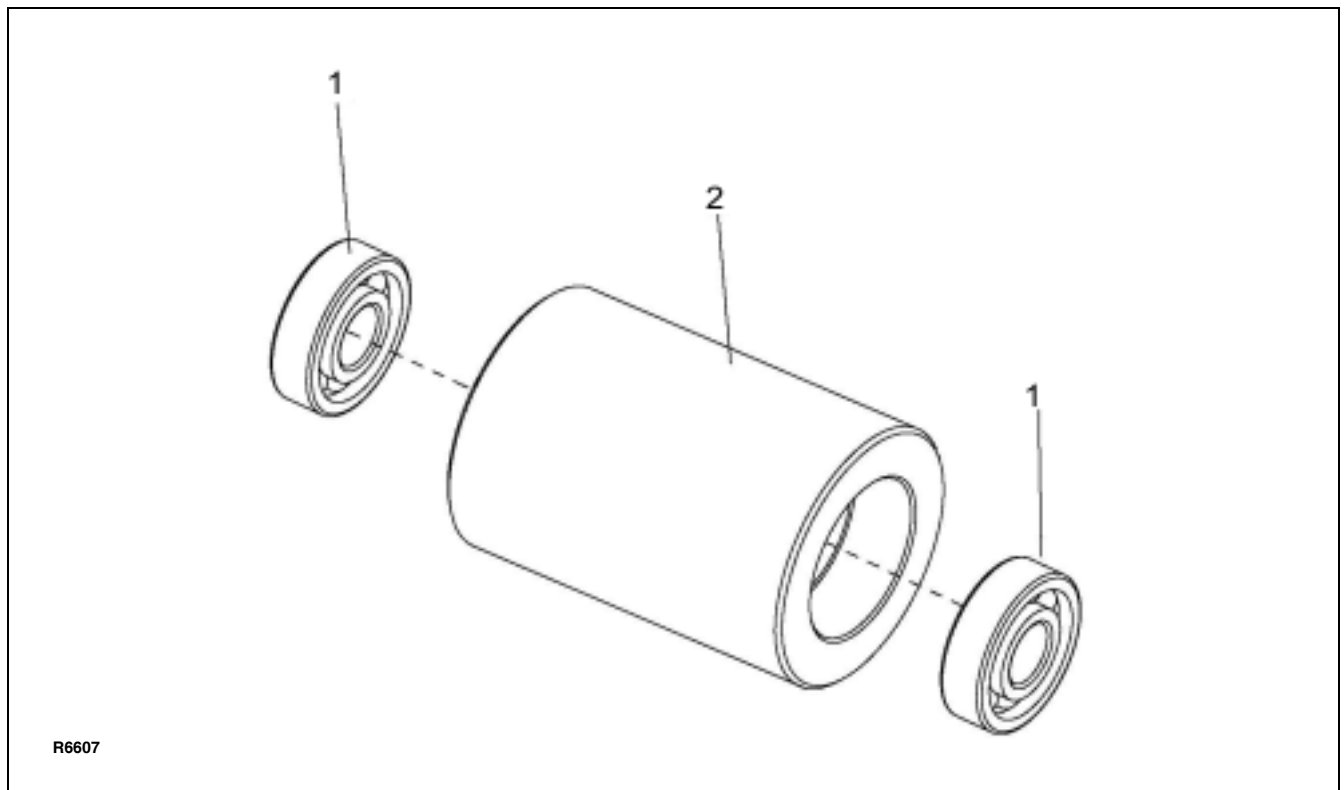

Figure 7-2 Wheel Assembly
1. Remove bearings (1, Figure 7-2) from wheels (2).
2. Inspect bearings (1) and replace if necessary.
3. Reassemble bearings (1) in wheels (2).